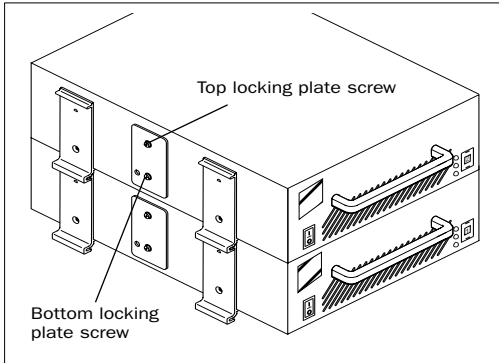

Figure 5. DigiDrive Locking Plate
- 2 Remove the top locking plate screw on both sides of each drive (see Figure 5).